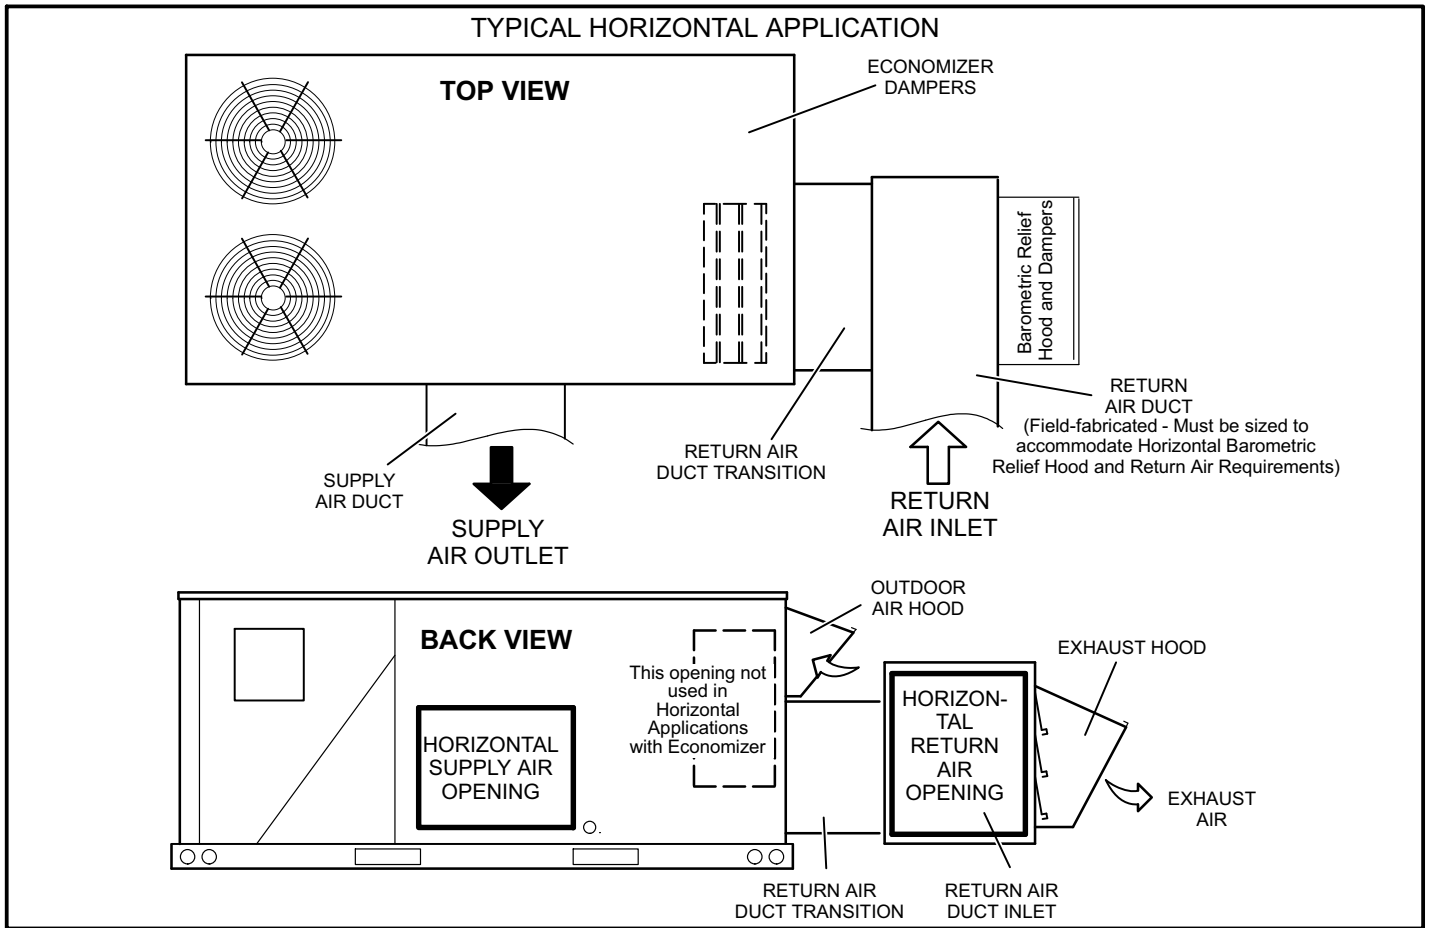

FIGURE 7
- 5- Install the field-fabricated return air duct transition and duct inlet on the unit end. See figure 7. Support the transition and duct inlet as needed.